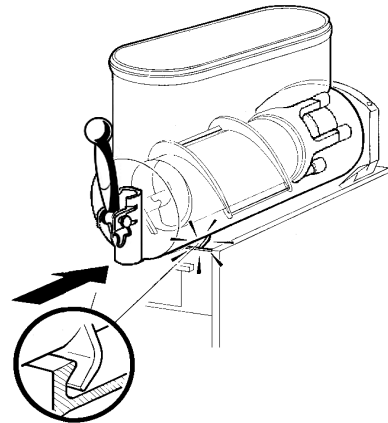

figure 17
- 7 Push the bowl towards the rear wall of the unit until it fits snugly around the gasket and its front fastening hooks are properly engaged (see figure 17).